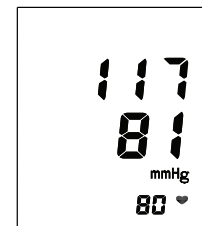

Fig. 4
4. There will be a long beep following the accomplishment of measurement. The air in the cuff will deflate quickly and the blood pressure reading, pulse reading will show in the display as Fig.4;